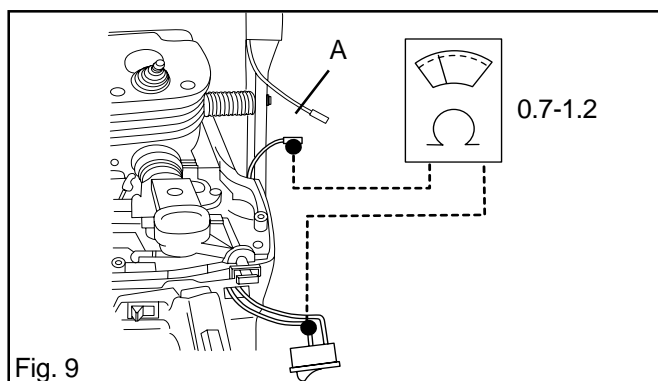

Fig. 9
1. Remove the cylinder cover and disconnect the connector on the red lead at A. See fig. 9.
4. Connect the ohmmeter as shown in fig. 9 and measure the resistance in the rear hand grip heating element. The meter should read 0.7 - 1.2 . If the reading is higher, replace the rear hand grip element.